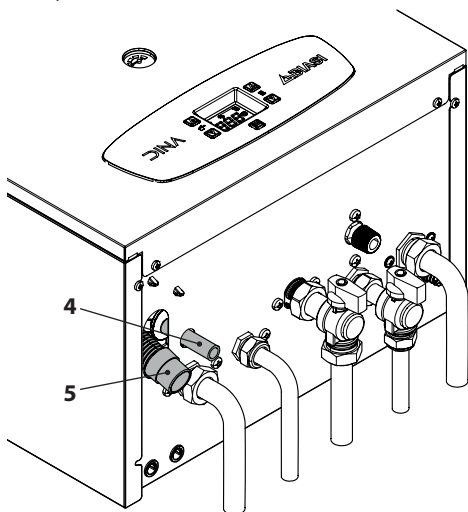

Figure 5.4
- Connect the safety valve discharge 4 (Figure 5.4) to an outlet funnel.
- Insert the flexible condensate discharge pipe 5 (Figure 5.4) inside the residential condensate discharge duct or the discharge funnel of the safety valve if the discharge is suitable for receiving acid condensate.